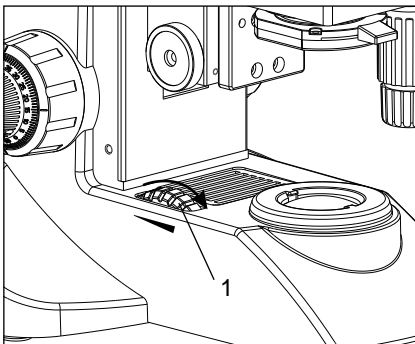

Fig. 15
2. Rotating the light intensity adjustment knob (fig. 15) in the direction of the arrow increases brightness and rotating it in the opposite direction decreases brightness. The figures around the knob indicate the intensity lever.